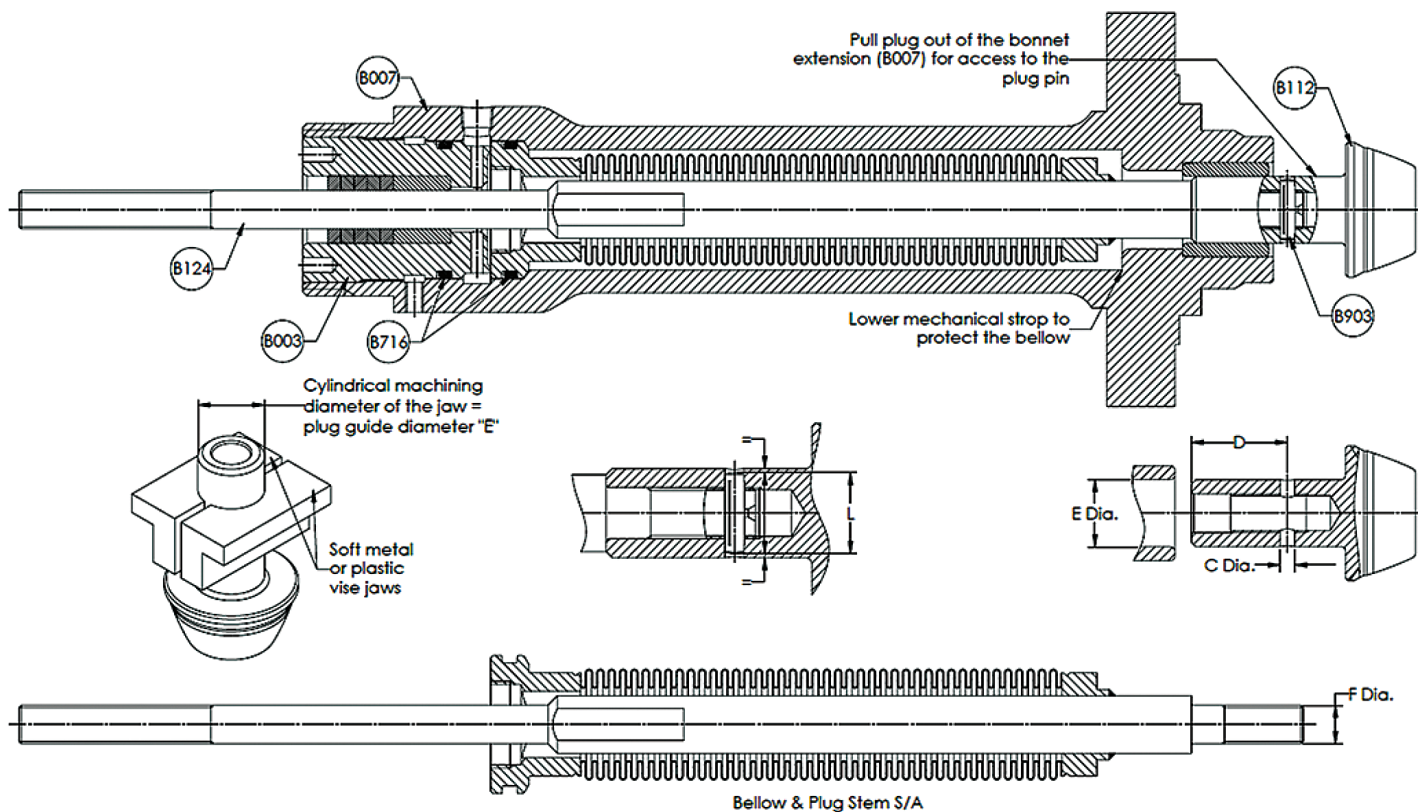

Figure 5 - Unpinning and Pinning of the Plug to the Stem
Note: Always use soft metal vise jaws to hold the plug guide surface. Failure to take this precaution could result in damage to the plug guide surface during pinning - see Figure 5 on page 16.
- **If the plug (B112) is already fully drilled**, (typical for 440C hardened stainless steel material or solid Stellite or equivalent), then drill the stem (B120) to the same diameter (Diameter C in Figure 5 on page 16 as the plug shank hole.
- Match Diameter C - see Figure 5 on page 16
- Measure Dimension D based on the plug guide diameter and stem diameter - see Figure 5 on page 16.
- Select the correct size pin based on the plug guide diameter and stem diameter - see Figure 5 on page 16. Apply a small amount of grease on the pin (B903) and hand-assemble it into the hole in the plug.
- Press fit the pin (B903) into the hole using a hammer. Complete the pinning operation by ensuring that the pin is recessed by the same amount from both sides - see Figure 5 on page 16.